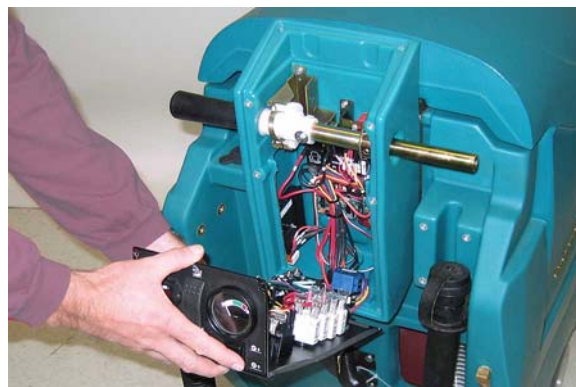

Fig. 2
- Remove control panel (8 screws) (Figure 2).